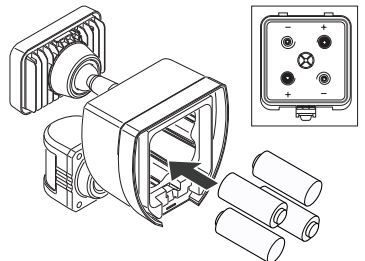

Figure 4
5. Install four 1.5V “D” batteries (not included) into the battery compartment. Make sure the polarity of the batteries matches the markings on the inside of the battery compartment cover. Replace the battery compartment cover (see Figure 4).